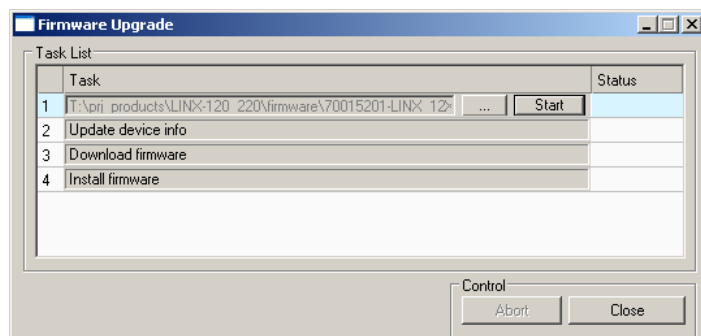

Figure 90: Firmware Update dialog of the Configurator.
8. This opens the **Firmware Update** dialog as shown in Figure 90. Click on the button  and select the firmware image.